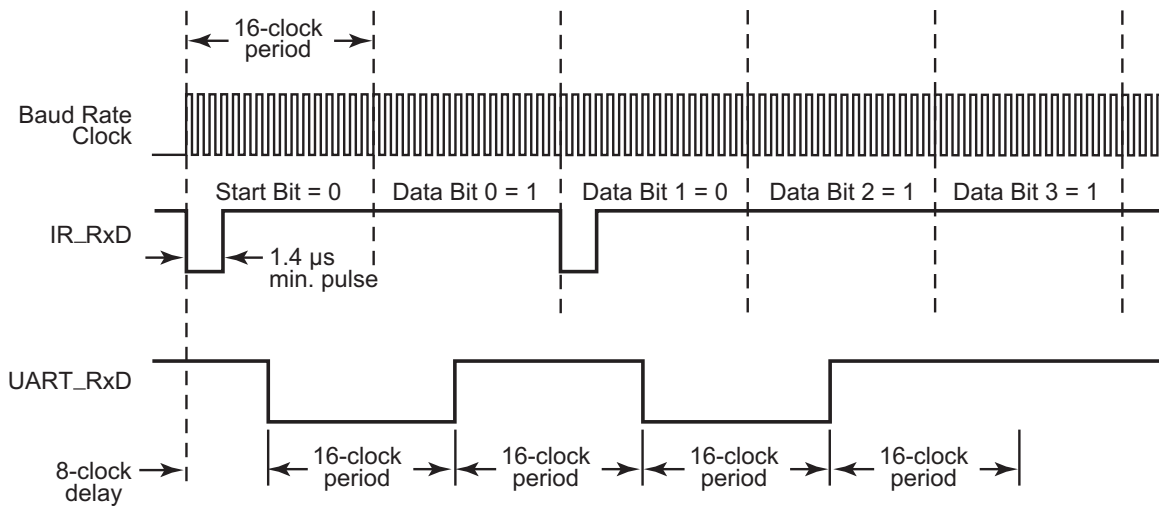

Figure 27. Infrared Data Reception
The UART baud rate clock is used by the IrDA endec to generate the demodulated signal (RxD) that drives the UART. Each UART bit period is sixteen baud-clocks wide. Each IR_RXD bit is encoded during a bit period such that a 0 is represented by a pulse and a 1 is represented by no pulse. The IrDA Physical Layer Specification describes a nominal pulse as being $\frac{3}{16}$ of a bit period wide. In this case, if the data to be received is a logical 0 (Low), a 3-clock-wide Low (0) pulse is received following a 7-clock High (1) period. Following the 3-clock Low pulse is a 6-clock High pulse to complete the full 16-clock data period. If the data to be received is a logical 1 (High), the IR_RxD signal is held High (1) for the full 16-clock period. Data reception is illustrated in Figure 27.